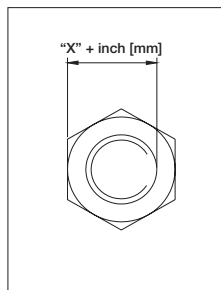

Figure 5
1. Measure the distance from the flat of the nut to the furthest side of the bolt. See Figure 5.